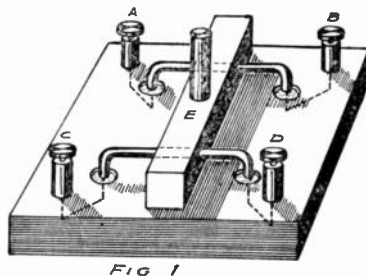
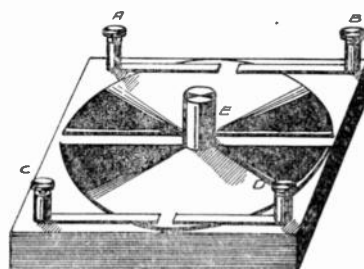

FIG 1
FIG 2
The simplest form of commutator is shown in Fig. 1. A piece of wood about four inches square and $1\frac{1}{2}$ inches thick is required for the base. Four holes $\frac{1}{4}$ inch in diameter and $\frac{3}{8}$ inch deep are bored in the base. Four binding posts are then screwed to the board a short distance from each hole and a short strip of copper run from each binding post into the holes. These holes are to be filled with mercury. A short strip of wood (E) is needed next, and pieces of heavy copper wire are passed through holes to this and are bent as shown. A
Another form of current reverser is shown in Fig. 2. Mercury cups are not required in this arrangement. A block of wood of the same dimensions as shown in Fig. 1 can be used. To each binding post copper strips are secured. The part in the center consists of a round piece of thin wood with a wooden peg fastened to it. Also to this round piece of wood secure with small tacks or glue two semi-circular pieces of copper as shown in the diagram. Turning the center part through 90 degrees reverses the current. The battery is connected to binding posts A and D.